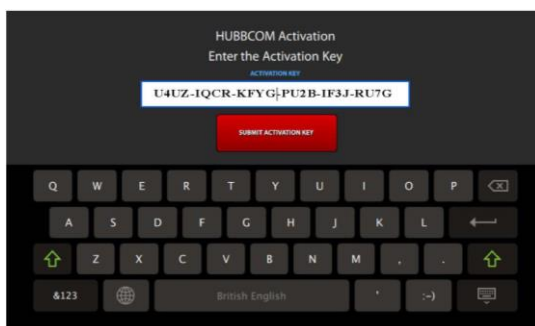

Figure 7. Device License Key Entered
4. Enter the device key provided on the smart controller's activation label (see Figure 6 and Figure 7).
5. Press the SUBMIT ACTIVATION KEY button on the screen (see Figure 7).